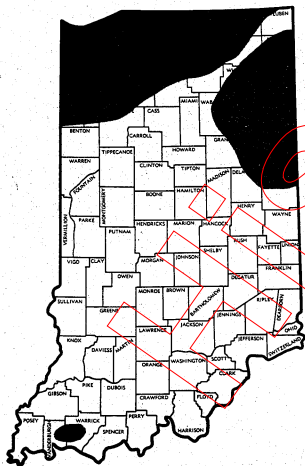

Fig. 1. Areas of manganese deficiency
Deficiencies are expected in specific areas of Indiana, and principally on two soils -- (1) the black sandy soils in the glacial outwash and lake bed material of the Kankakee River Valley in the northwest, and (2) the depressional heavy soils of Allen, Adams, Wells and adjacent counties in the northeast (Figure 1). The problem has also been noted in War-